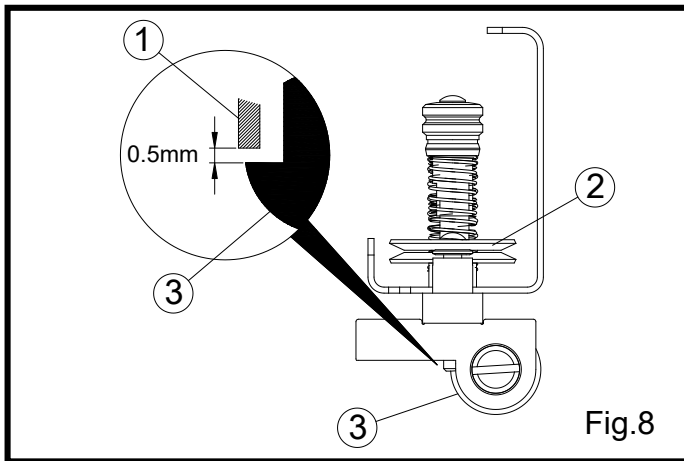

Fig.8
當踩下踏板時，六個鬆線器①會向上推，之後上夾線片②開始離開下夾線片。(Fig.8)
- (2) 翻轉鬆線器座③用螺絲起子。(Fig.8)
As standard, make the clearance between the tension release pins① and the tension release shaft③ to 0.5mm when six tension release pins① are pushed up slightly and the upper thread tension disc without pressing the presser foot pedal.(Fig.8)
- (2) Turn the tension release shaft③ with a screwdriver.(Fig. 8)